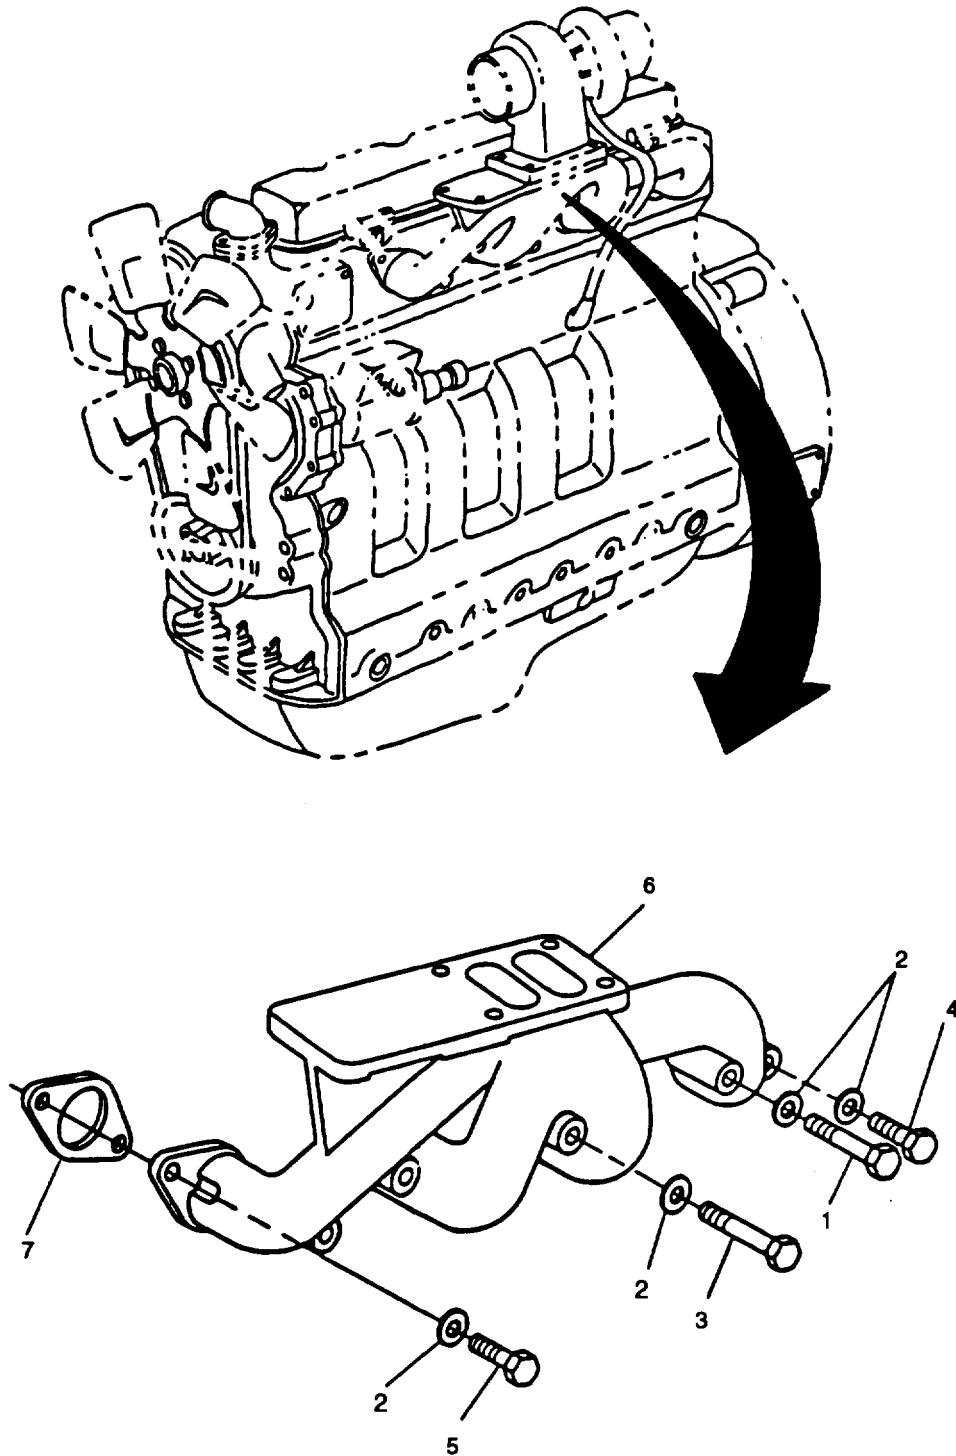

FIGURE 3-26. Exhaust Manifold
- b. Remove eight capscrews (1, 3, 4, and 5, FIGURE 3-26) and washers (2), securing exhaust manifold (6) to engine. Remove manifold and four gaskets (7); discard gaskets.
- b. Using four new gaskets (7, FIGURE 3-26) position exhaust manifold (6) on cylinder head. Coat all eight capscrews (1, 3, 4, and 5) with antiseize compound (CP-8) and install with washers (2) in locations as noted during removal. Tighten capscrews to 35 ft-lbs (47 Nm).